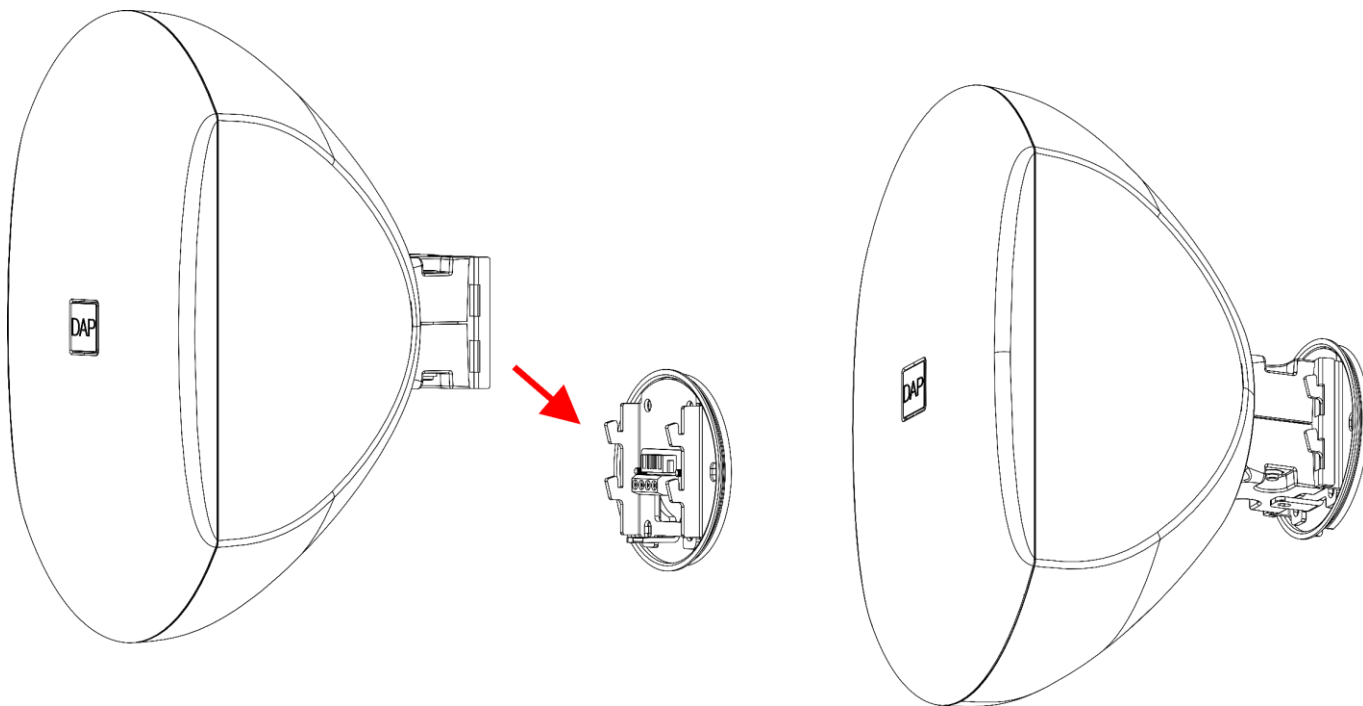

Fig. 19
- 01) Turn the **mounting screw (11)** counter-clockwise to remove it.
- 02) Hang the speaker on the **mounting plate (07)** (Fig. 19).
- The **4 x mounting hooks (15)** shall fit through the **4 x speaker mounting holes (05)** on the **mounting panel (04)**.
- The **speaker connector (06)** shall fit in the **4-pin terminal connector (16)** on the **mounting plate (07)**.